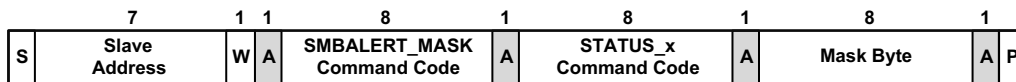

Figure 34. SMBALERT\_MASK Command Packet Format
Figures 34 and 35 show the command format used to block a status bit or bits from causing the SMBALERT# signal to be asserted. The bits in the mask byte align with the bits in the corresponding status register. For example, if the STATUS\_TEMPERATURE command code is sent with the mask byte 01000000b, an over-temperature warning condition would be blocked from asserting SMBALERT#.
**Note:** Figure 34 shows the command format used by the host to determine the SMBALERT\_MASK setting for a given status register.